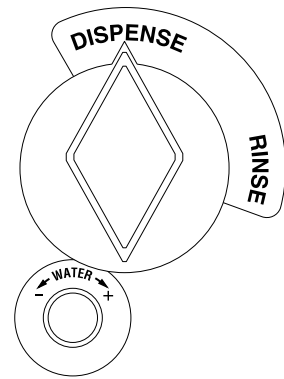

FIG 7 Dispense/Rinse Switch
1. Open the refrigerated compartment's door to access the "DISPENSE/RINSE" Knobs Fig 7.
5. Remove the DISPENSE/RINSE knobs Fig 7, all dispense nozzles, and the dispense platform cover.